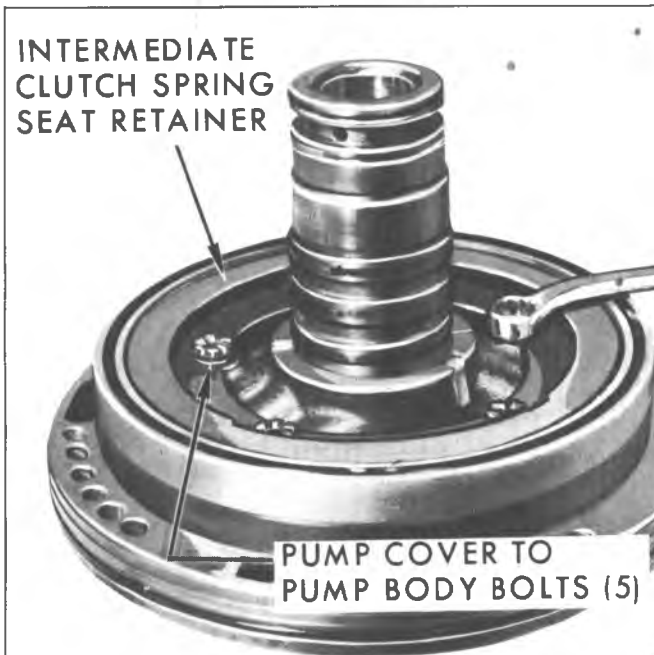

Fig. 55M--Removing Pump Cover to Pump Body Bolts
2. Remove pump cover to body attaching bolts 5/16 x 18-1 1/2 (fig. 55M).